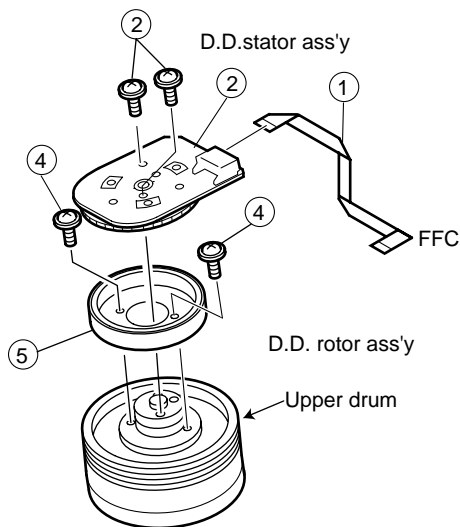

Figure 4-33.
Move the A/C head with the X value adjustment gear driver (JiGDRIVER-6) by the method shown in Figure 4-33, and adjust the A/C head so as to get the maximum ATR signal waveform. (Note: When the A/C head is adjusted, adjust so that the maximum ATR signal waveform is obtained nearest the position of initial setting made in 4-15.)
- ③ Move the A/C head with the X value adjustment gear driver by the method shown in Figure 4-33, and adjust the A/C head so as to get the maximum ATR signal waveform. (Note: At this time adjust so as to get the maximum ATR signal waveform nearest the A/C head position which has been set in case of X value rough adjustment as stated in 4-17, 3- ②.)
- ④ Adjust the playback switching point (Refer to the electric adjustment method.)
- ⑤ Playback the self-picture-recorded tape, and check the flatness of ATR signal waveform and sound.